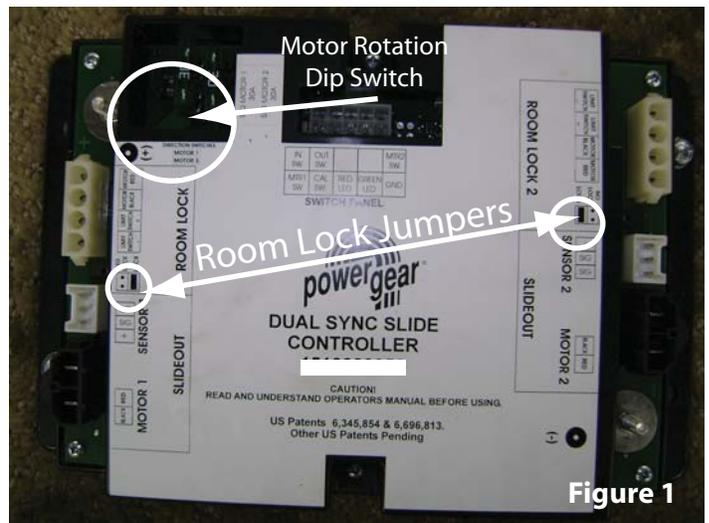

Figure 1
1. Mount control box (Fig 1) in a location that will protect the components from the elements and being hit but is easily accessible for service.
1. Locate the control (Fig 1) and verify which location the SLIDEOUT motors are plugged into (Motor 1, Motor 2, Motor 3, and/or Motor 4)
- For initial programming of the slideout motors rotation, you need to determine each slideout motor mounting orientation and locate the dip switches in the upper left hand corner of the control. (fig 1 and 6A)